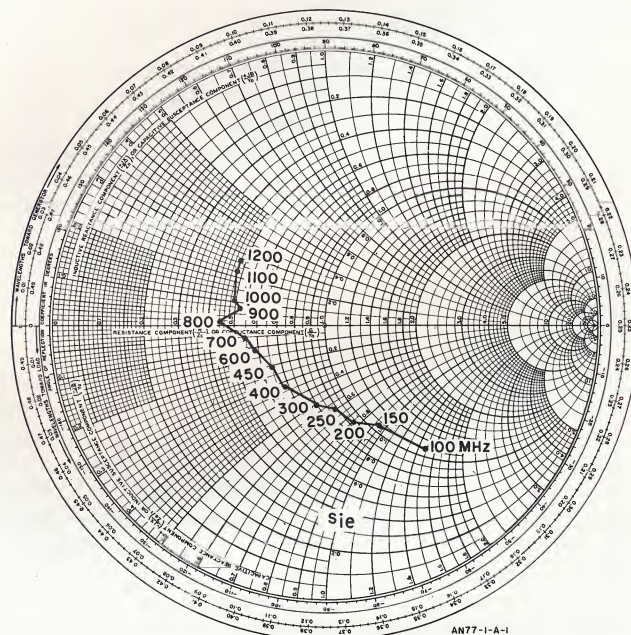

Figure 1. Input reflection coefficient for a 2N3563, common emitter configuration, from 100 to 1,200 MHz.
**Complex impedance and transmission parameters.** Since the 8405A measures both phase and magnitude, it can be used to fully define the complex transmission and reflection coefficient of two-port networks and components, including transistors. The simplicity of such a setup is shown in the photograph on page 1. The dual directional coupler in front of the device to be measured (in the test jig) allows both magnitude and phase of the reflection coefficient to be measured. The coupler following the device allows measurement of complex gain or attenuation. Figure 1 is a Smith-chart plot of the input reflection coefficient of a 2N3563 high-frequency transistor; the data was entered on the chart directly from the 8405A voltage and phase readings.